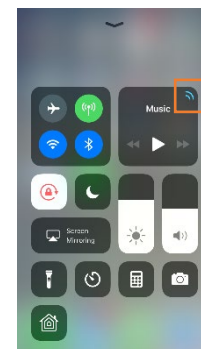

Figure 51.
1. Open the Control Center (Figure 51).